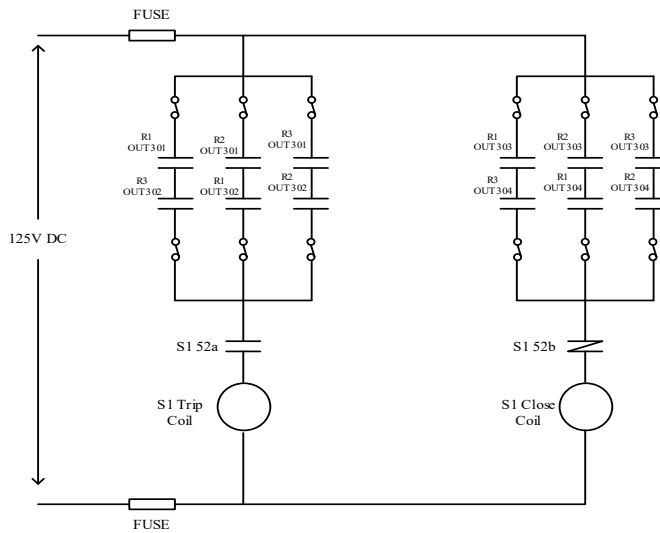
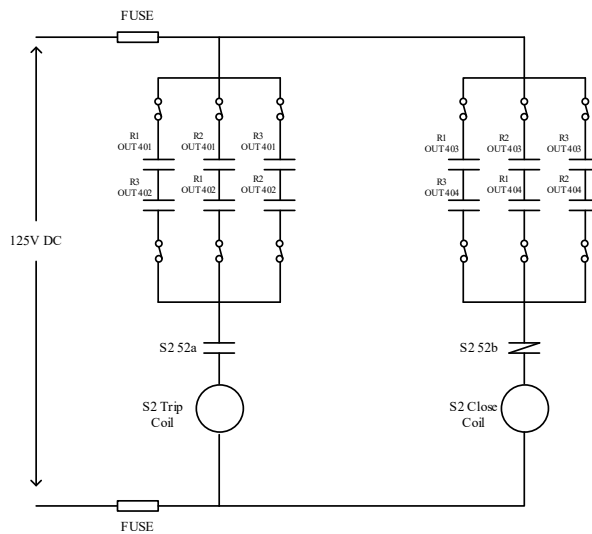

Figure 3-1: Utility Circuit Breaker - 2 Out of 3 Voting Scheme
Figure 3-2: Generator Circuit Breaker - 2 Out of 3 Voting Scheme
A transfer scheme is defined as transfer of source from one to another in the event of a failure or for maintenance. The transfer scheme is programmed in two different modes: Automatic Transfer when 43-AM switch is placed in automatic mode, and manual transfer when local 43-AM switch is placed in manual mode. Both modes have been programmed in three (3) SEL-700GT Intertie Protection Relays with Utility-Emergency Generator (U-EG) configuration. All these three relays have identical relay settings, but for control, it's using 2 out of 3 voting schemes. Figure 3-1 & Figure 3-2 shows the utility and generator breaker trip & close circuit using 2 out of 3 voting schemes. Figure 3-4 shows the front view of the MV-ATS switchgear lineup.